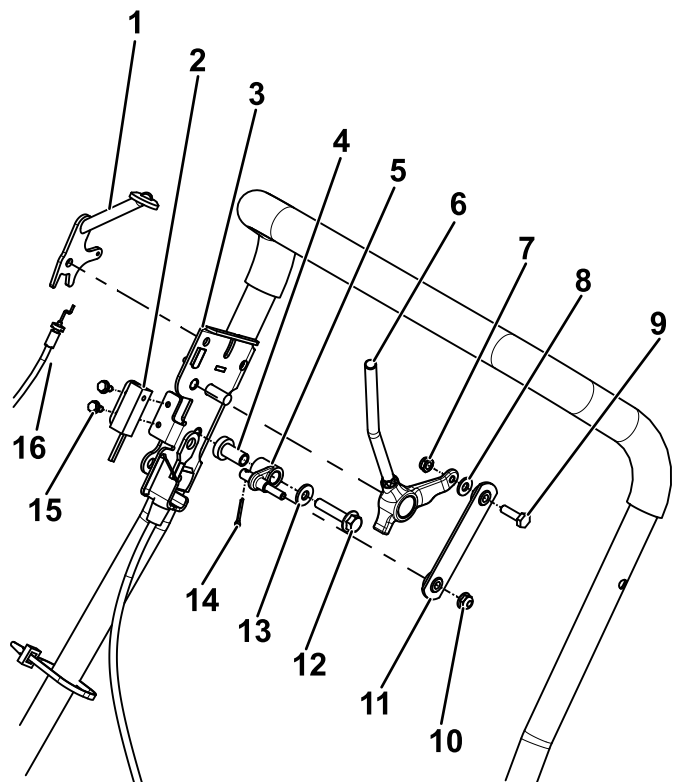

Figure 7
8. Install the traction bracket onto the handle using the previously removed hardware (Figure 7).
9. Install the traction lever, pivot, and linkage using hardware supplied with this kit (Figure 7).
10. Install the proximity switch using previously removed hardware (Figure 7).
13. Install the throttle lever using previously removed hardware (Figure 7).